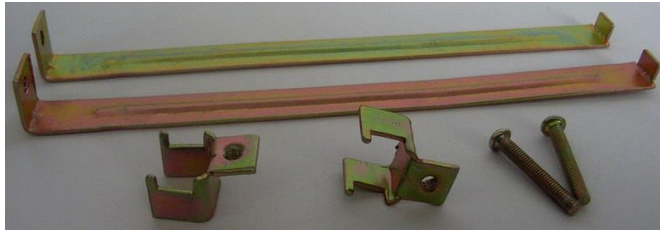

Figure 6. Accessories of D08-1F & D08-1FP & D08-1FM
5.2.1 Accessories include two sets of long bracket, short bracket and bolt (figure6). They are used for fixing the Flow Readout Box on the panel.